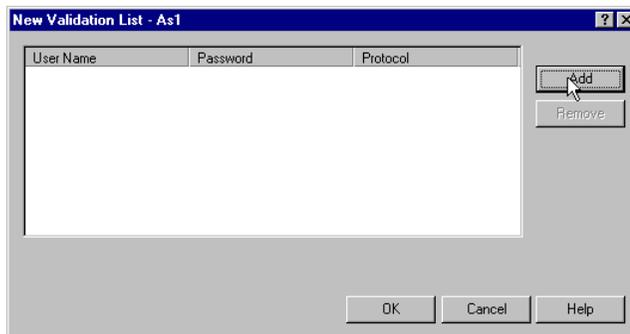

Figure 162. Validation list
3. Click **Add** to add a new user to the validation list (Figure 162).